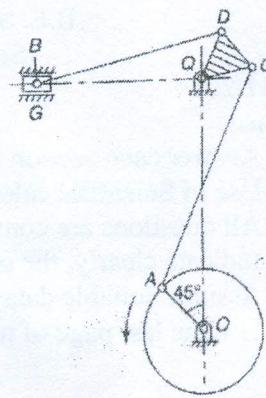

Fig. 3
- [A] The lengths of various links of a mechanism shown in fig.3 are as follows: